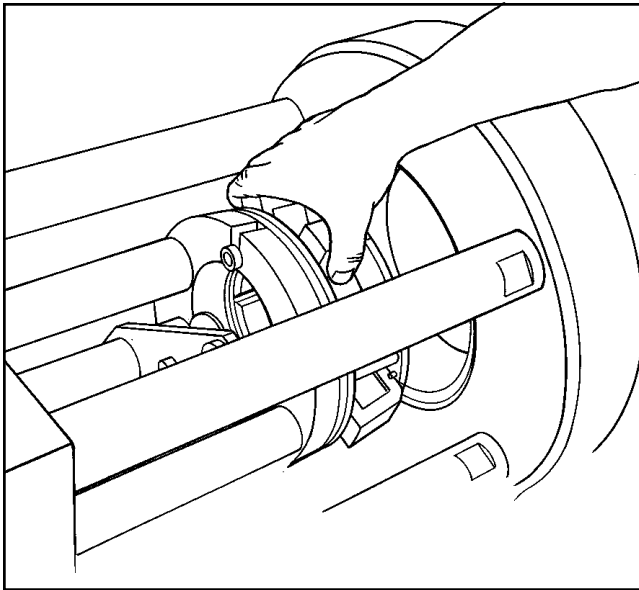

Figure 1
To load the die cage, press and hold the RETRACT switch until the crimp cylinder reaches the "full retract" position and stops. The die cage may be inserted or removed in this position. (See Figure 1.) NOTE: To minimize cycle time during normal operation, the Aeroquip ProCrimp 1390 crimp machine can be programmed to stop retracting before it has fully retracted. This reduces the crimping cycle time. The die cage may not be able to be removed. Pressing and holding RETRACT will always bring the cylinder to the full retract position. See instructions on Page 5.
1. Retract the cylinder by pressing the RETRACT switch until the cylinder is fully retracted. Select the proper die cage from the current Aeroquip Crimp Specifications bulletin. Insert the die cage onto the pressure plate. (See Figure 1.)